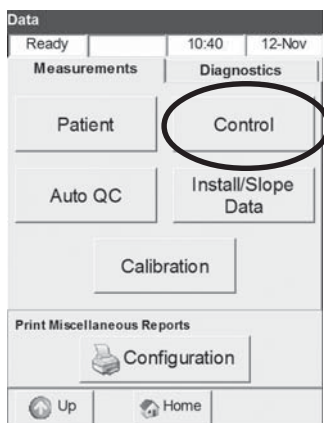

Fig. 4-35 Select Controls
2. Press **<Control>** (Fig. 4-35).